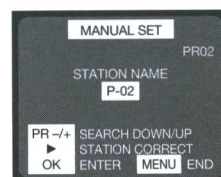
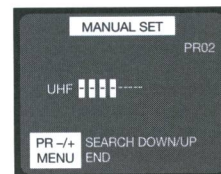

Fig. 3
Fig. 4
3. Press the **OK/REMAIN** button to enter the manual search screen (Fig. 3).
4. Press the **PR/TRK -** or **+** button to start the search mode (Fig. 4). When a station is found the station name will be displayed (Fig. 3). If this is the required station press the **OK/REMAIN** button.